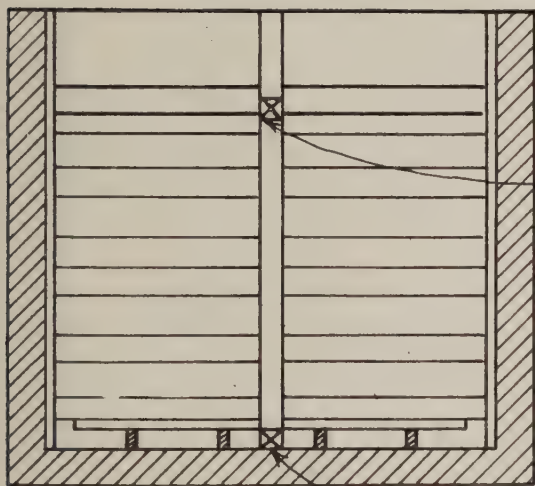
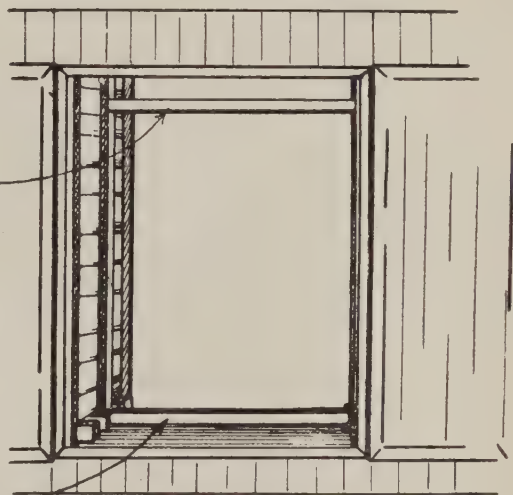

FIG. 13.—Bulkhead across car at doorway to hold bulk potatoes.
FIG. 13a.—Bracing to hold bulkheads in place.
20. In loading bulk potatoes build up the bulkhead at the doorway (fig. 13) as necessary. The bulkheads should be made of good 1 in. boards, or heavier, so cut that they will fit and may be nailed behind 2 by 4 in. uprights nailed to each false side wall and a 4 by 4 in. upright at the center. The center uprights of the bulkhead should be braced apart with not less than 2 pieces of 4 by 4 in. studding driven in place and well nailed (fig 13a).
16. In loading bulk potatoes, build up the bulkheads at the doorway (fig. 13), as necessary. The bulkheads should be made of good 1 in. boards, or heavier, so cut that they will fit and may be nailed behind 2 by 4 in. uprights nailed to the doorposts and a 4 by 4 in. upright at the center. The center uprights of the bulkheads should be braced apart with not less than 2 pieces of 4 by 4 in. studding driven in place and well nailed (fig. 13a).
11. Load bulk potatoes, building up the bulkheads at the doorway (fig. 13) as necessary. The bulkheads should be made of good 1 in. boards, or heavier, so cut that they will fit and may be nailed behind 2 by 4 in. uprights nailed to the doorposts and a 4 by 4 in. upright at the center. The center uprights of the bulkheads should be braced apart with not less than 2 pieces of 4 by 4 in. studding driven in place and well nailed (fig. 13a).